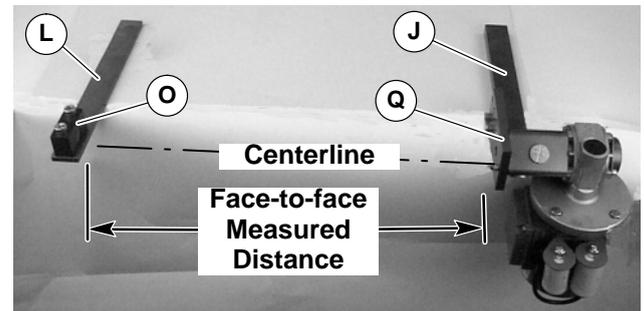

Figure 7
6. Attach guard tube (G) and gearmotor support assembly (J) to gearmotor assembly (F) with screws (K). Tighten screws (K) to 5.6 Nm.
**NOTE:** Mounting holes are not provided. Ensure that gearmotor assembly (J of Figure 7) and bearing support assembly (L) are parallel and center-line of coupling matches center-line of bearing block (O).
7. Attach gearmotor assembly (J of Figure 7) and bearing support assembly (L) to mounting surface.